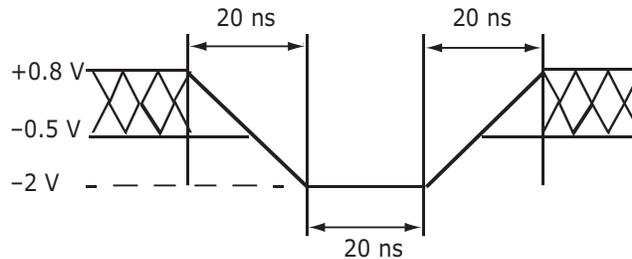
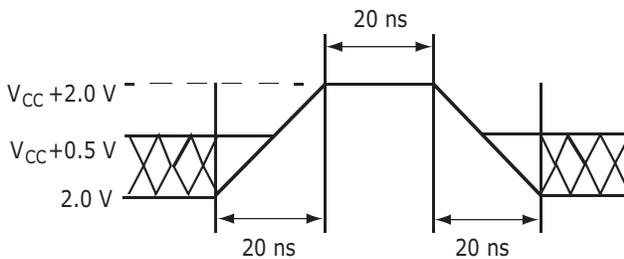

Figure 13.1 Maximum Negative Overshoot Waveform
Figure 13.2 Maximum Positive Overshoot Waveform
1. Minimum DC voltage on input or I/O pins is -0.5 V. During voltage transitions, input at I/O pins may overshoot V_{SS} to -2.0 V for periods of up to 20 ns. See Figure 13.2. Maximum DC voltage on output and I/O pins is 3.6 V. During voltage transitions output pins may overshoot to $V_{CC} + 2.0$ V for periods up to 20 ns. See Figure 13.1.
2. Minimum DC input voltage on pins ACC, A9, and RESET# is -0.5 V. During voltage transitions, A9 and RESET# may overshoot V_{SS} to -2.0 V for periods of up to 20 ns. See Figure 13.1. Maximum DC input voltage on pin A9 is +13.0 V which may overshoot to 14.0 V for periods up to 20 ns.